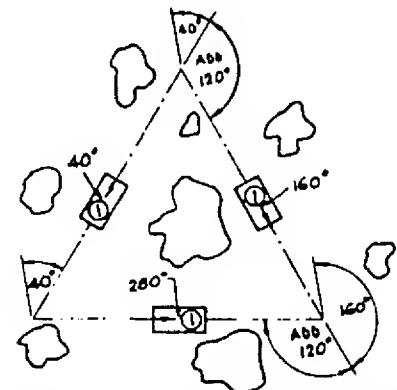

Figure 405 Compass Triangle Game or Equilateral Triangle
- 92. Play the compass triangle game (the equilateral triangle). Play the game by putting a small object such as a coin on the ground. Set your compass at any degree bearing less than 120° (as an example, 40°). Walk for 200 steps following the 40° . Add 120° to the original degree reading and reset your compass (in the example this would make it 160°). Walk 200 steps in this new direction. Again, add 120° to the second degree reading (this would make it 280°). Reset the compass and walk another 200 steps in this third direction. Stop. Bend over and pick up your coin. See Figure 405.